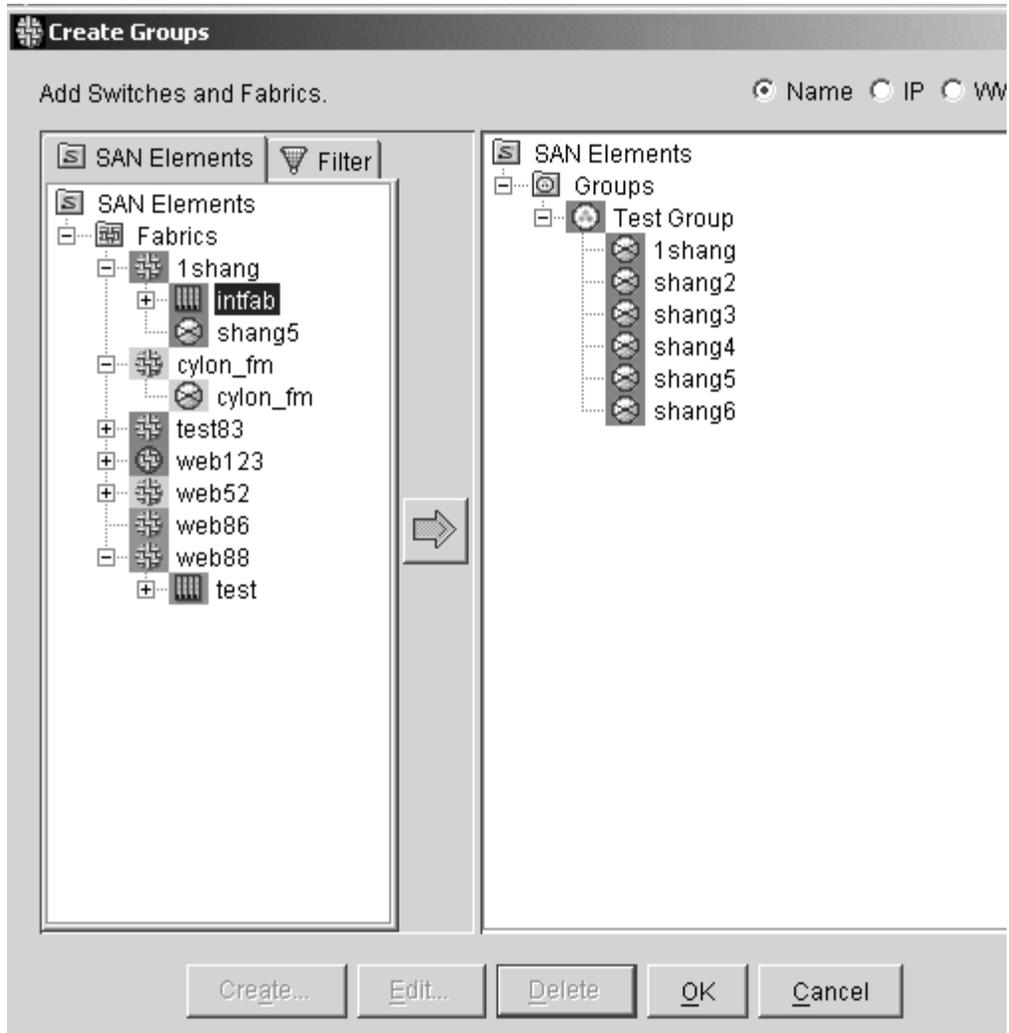

Figure 4–3: Create Groups dialog box
1. Choose **File > Group > Create**. The **Create Groups** dialog box displays, as shown in Figure 4–3.